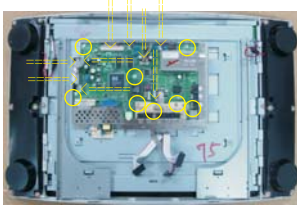

Fig. 15
- b. Unscrew the 8 screws and disconnect the 9 cables as Fig. 15 .